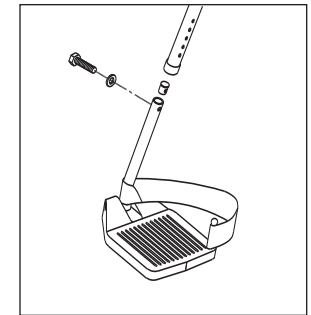

Figure 6
D. FIXED FRONT FOOTRESTS**1. Adjustment (Fig. 6)**